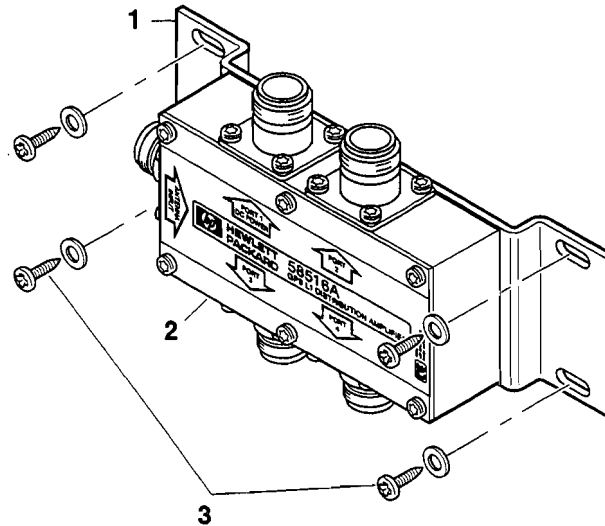

Figure 3. Surface Mounting the Distribution Amplifier
7.8. The amplifier assembly can be mounted to any flat surface. Refer to Figure 3.